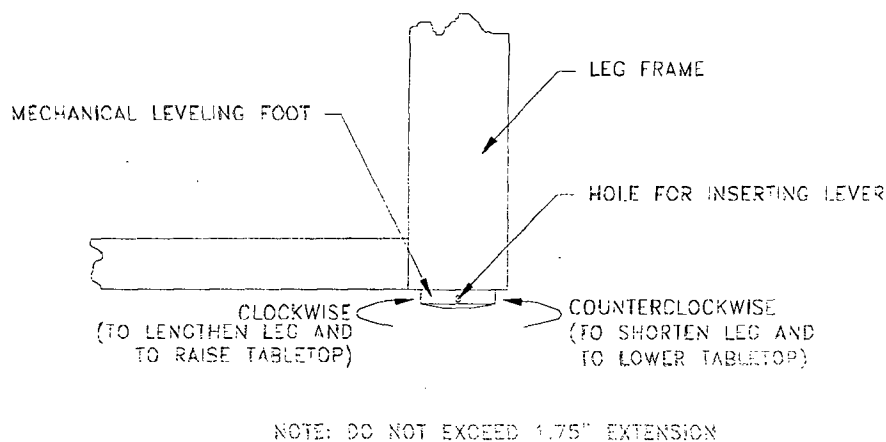

Fig. 2 Mechanical Leveling Foot Height Adjustment
2. Remove the protective wood blocks from the bottom of each leg. The Mechanical Leveling Feet are fully retracted for shipping. Rotate each foot **CLOCKWISE** (see Fig. 2) so that they extend 3/4" below bottom of the leg.
6. Place a carpenter's level diagonally across the Tabletop and check for level condition (both directions) at its final location by raising or lowering the Mechanical Leveling Feet (as shown in Figure 2).
7. If an out-of-level condition is detected, adjust the Leveling Feet by inserting a thin rod or screwdriver (as shown in Fig. 2) into the hole on the side of the Leveling Foot. Rotate COUNTERCLOCKWISE to shorten leg and lower the Tabletop. Rotate CLOCKWISE to lengthen leg and raise Tabletop. After you have leveled the tabletop all four legs should be in contact with the bottom surface of the tabletop, if any gap is observed rotate the leveling foot clockwise to close the gap.